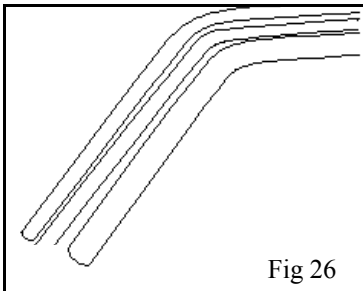

Fig 26
Sanitise nozzles. Figs 26 – 28 page 9.
1. Remove stainless steel dispense tubes from holder by pulling with a twisting motion. Fig 26.